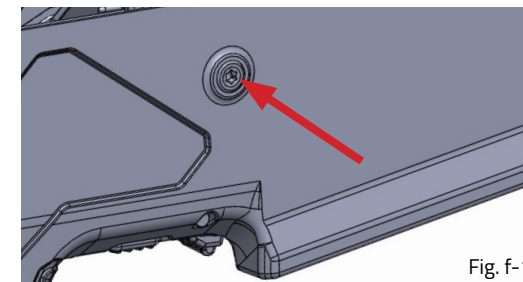

Fig. f-1
1. Push inward on the magazine release rod. (Fig. f-1)